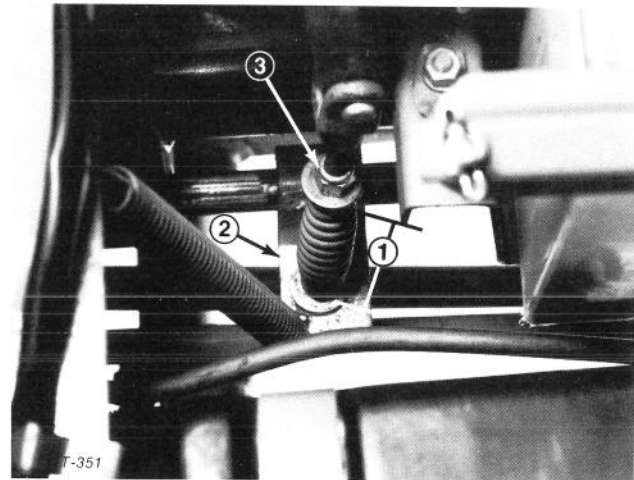

Figure 45
3. Measure length of PTO spring between flat-washers (Fig. 45). There should be a spring length of 3-3/16 inches (81 mm).
4. To adjust, hold head of adjusting screw with wrench (under PTO actuating arm) and turn locknut (Fig. 45).